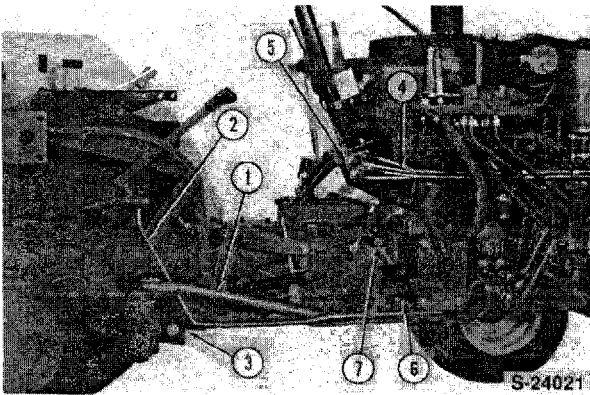
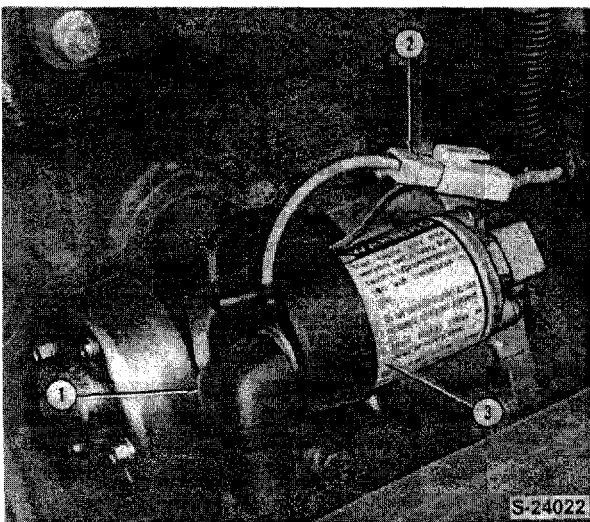

Figure 16
Figure 17
16. Remove the hydraulic suction tube (1) from the tractor, Figure 16.
17. Remove the hydraulic system pressure tube (2), Figure 16 from the tractor .
18. Remove the oil return line (3), Figure 16, from the tractor.
19. Disconnect the four power steering oil tubes from the control valve, Figure 16.
20. Disconnect the starter motor wiring from the starter, Figure 17.
6. Loosen the hose clamp (6), Figure 17, and remove the tube (7) from the hydrostatic unit, Figure 16.